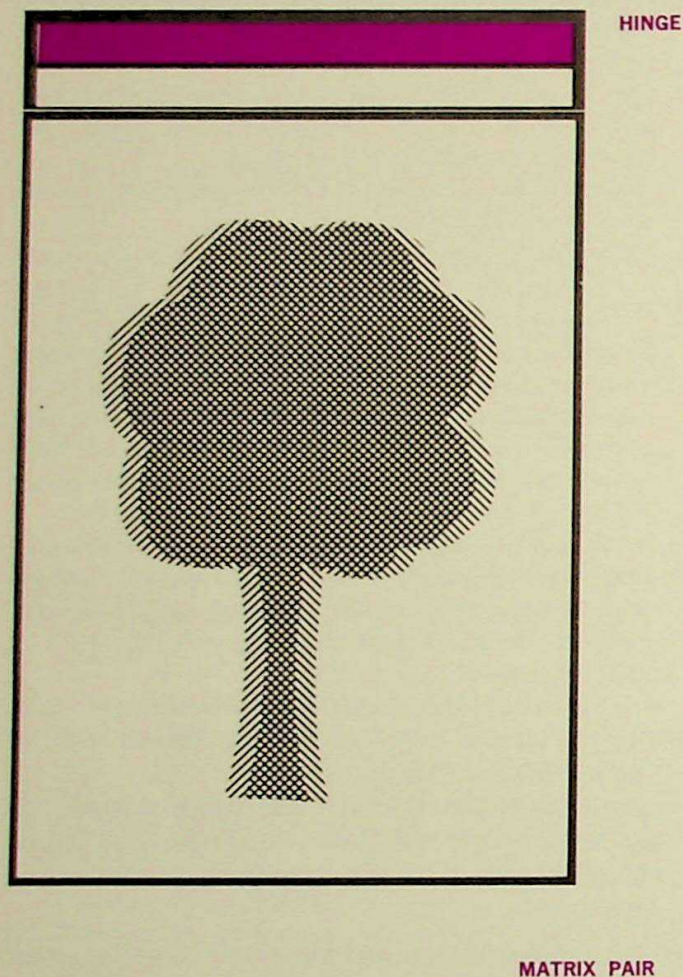

Figure 4
- (3) Remove masking tape from other edges of matrix pair and trim these edges to match if necessary. See Figure 4.